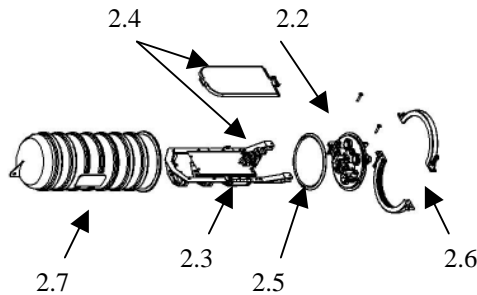

Figure 2
The 4048D consist of six (6) primary components. *Refer to Figure 2*